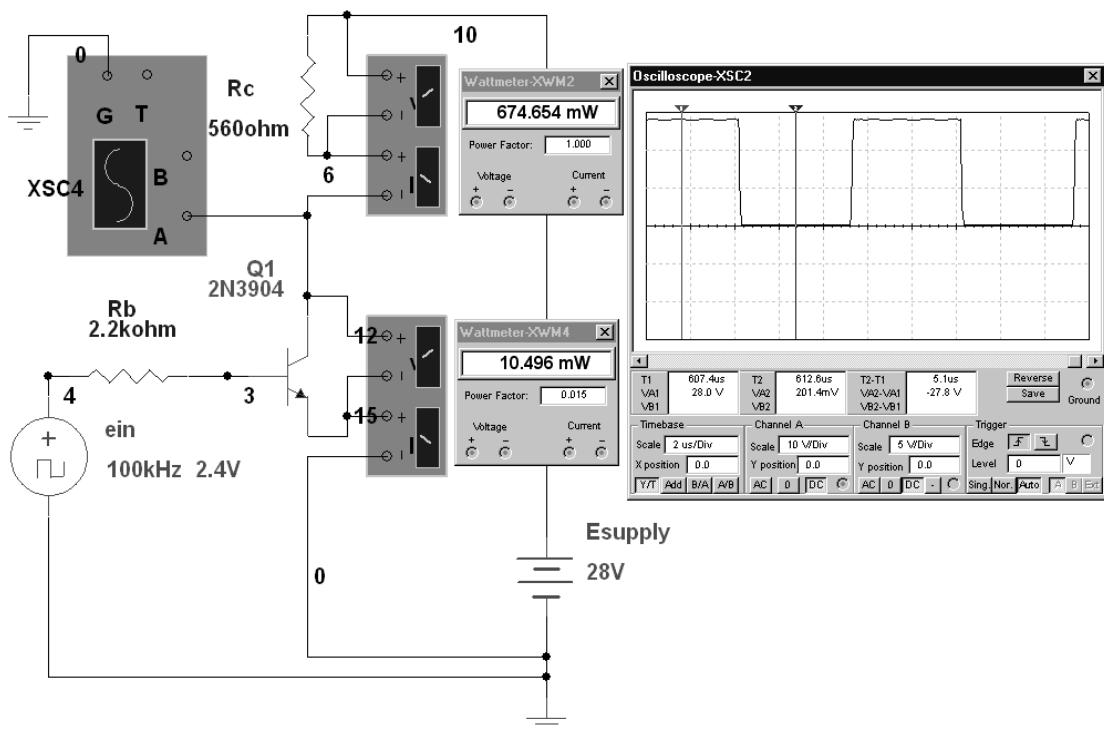

Figure 6-10 Simulation of a bipolar junction transistor switch for Example 6-4
3. The Multisim simulation is shown in Figure 6-10. There is good agreement with the calculations. Remember that the wattmeters have two sets of connections. The voltage terminals must be connected *across* the element. The current terminals must be in *series* with the element. The only surprise is the voltage across the transistor when it is *on*. The oscilloscope, cursor 2, indicates 201 mV not 300 mV. But the 300 mV specification is a manufacturer's worst case maximum.